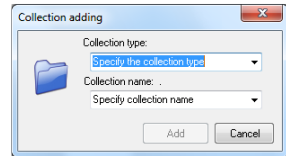

Fig. 376 – adding a new collection to the User Database
- **Add new collection or collection type** – creates a new collection in the **User Database** (available also under **<Ctrl + K>**); a name of a new collection type and of the new collection itself should be entered (Fig. 376);